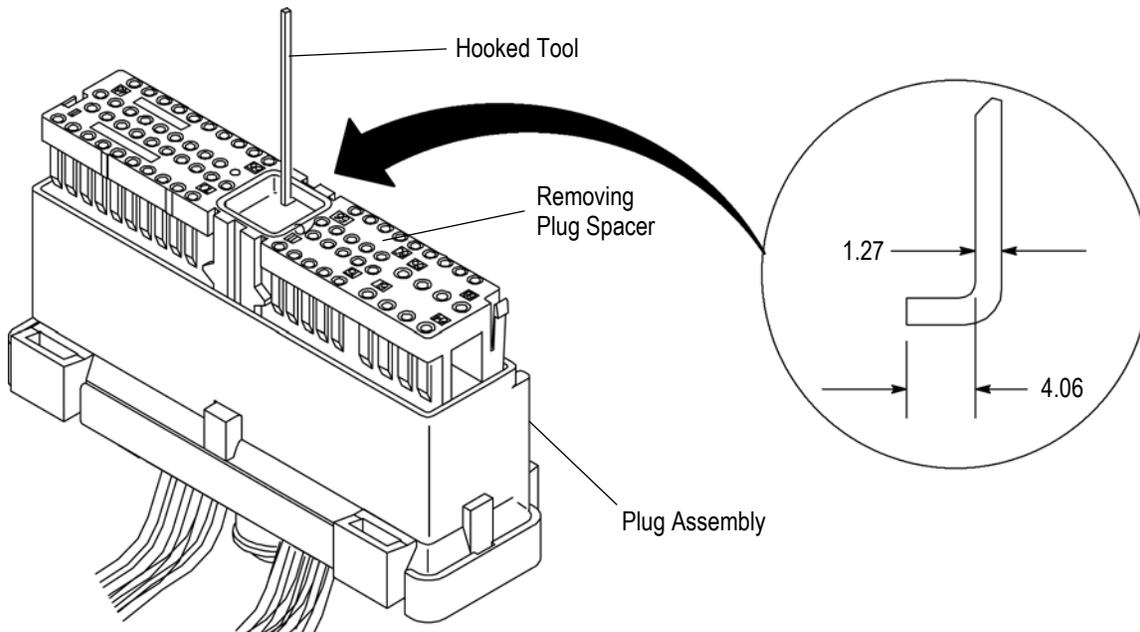

Figure 6
3. To remove the plug spacer, insert any hooked tool into the opening around the jackscrew. Rotate the tool to catch the underneath the spacer. Pull spacer straight out from the plug housing. See Figure 6